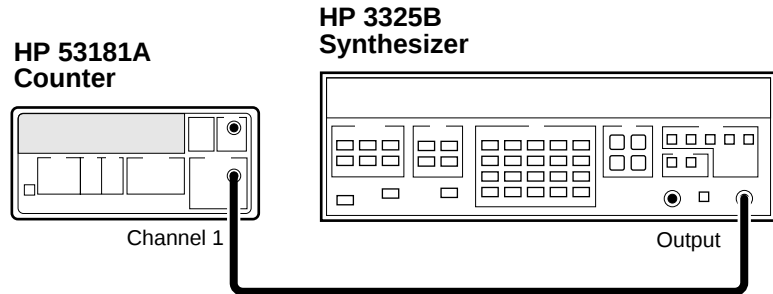

Figure 1-11. Trigger Level Test Setup
- 1 Connect the output of the HP 3325B to Channel 1 of the Counter as shown in Figure 1-11.**